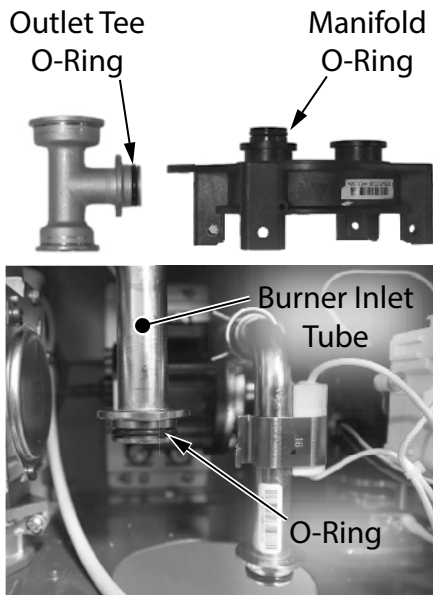

Figure 8 - Replace O-rings
- 19 If replacing outlet tee, discard old tee and locate the new outlet tee provided in the kit. Install one (1) 15.5 x 2.5, NBR O-ring to outlet tee. Replace one (1) 15.5 x 2.5, EPDM O-ring on the cartridge manifold. Replace one (1) 21.8 x 2.4 O-ring on the burner inlet tube. See Figure 8 on the following page for reference.